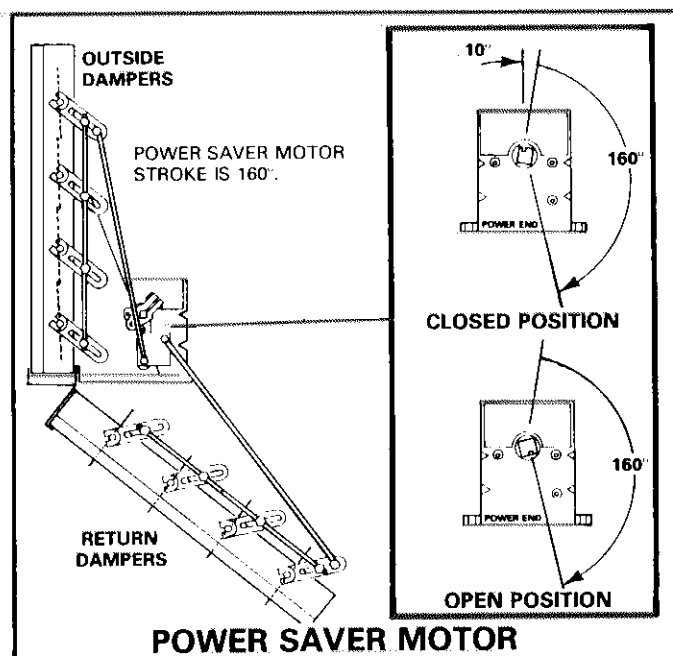

FIGURE 28
- 3 - The power saver motor includes a spring return feature which closes motor on a power failure. The motor stroke is 160 degrees as shown in Figure 28 and the timing is 40 seconds. With R-W terminals shorted or B leg open, the motor drives outside dampers closed. With R-B terminals shorted or W leg open, the motor drives outside dampers open.